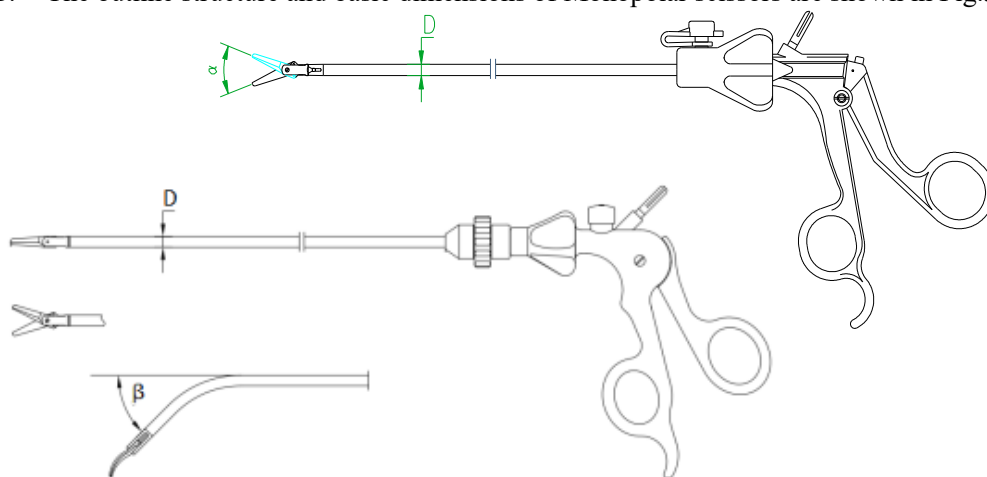

Fig.3 Structure diagram of Monopolar scissors
C. The outline structure and basic dimensions of Monopolar scissors are shown in Fig.3 and Table 3.